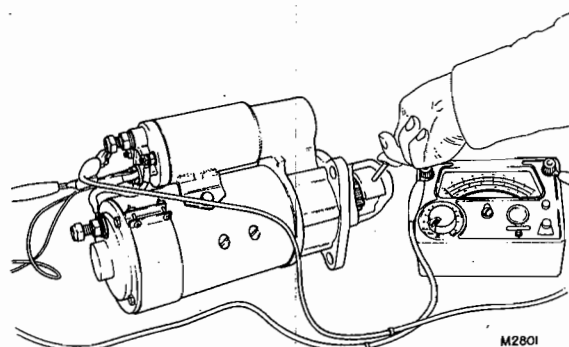

FIG. 9. ABUTMENT TEST
1. Test solenoid switch for correct operating sequence by placing tool CEG 14/3 on armature shaft to retain pinion assembly in rest position. With an Avometer connected to terminals 2 and 3 and 24 volt DC supply to terminal 1 and 3 a reading should not be observed, see Fig. 9.